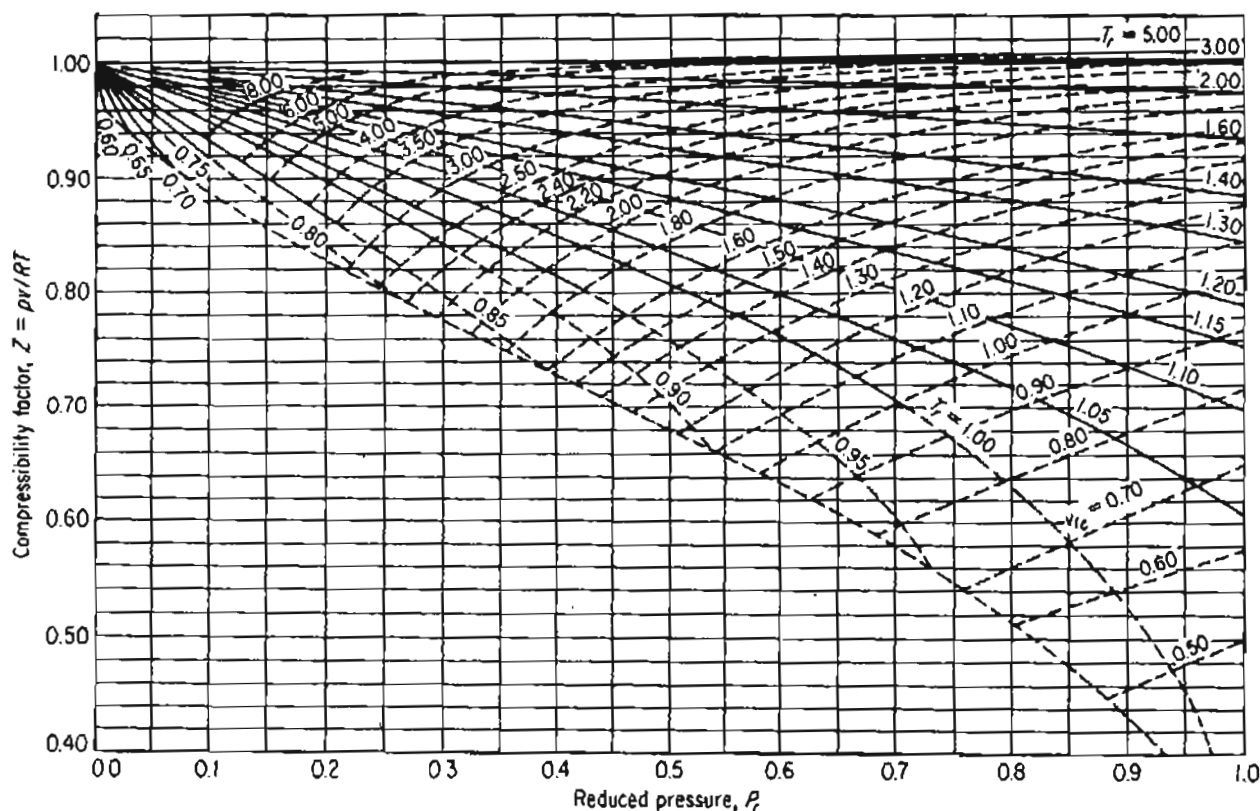

Figure 14.4a Generalized compressibility chart for lower pressures showing z as a function of p_r , T_r , and \hat{V}_{r1} .
Because of the generalization feature shown in Figure 14.3b, you can use what is called the generalized compressibility factor z for your gas calculations. Figures 14.4a and 14.4b shows two examples of the **generalized compressibility factor charts**, or z -factor charts, prepared by Nelson and Obert.* These charts are based on data for 30 gases. Figure 14.4(a) represents z for 26 gases (excluding H_2 , He, NH_3 , and H_2O) with a maximum deviation of 1%, and H_2 and H_2O within a deviation of 1.5%. Figure 14.4(b) is for nine gases and errors can be as high as 5%. Note that the vertical axis is not z but zT_r in Figure 14.4(b). To use the charts for H_2 and He (only), make corrections to the actual constants to get **pseudocritical** constants
and then you can use Figures 14.4a and 14.4b for these two gases using the pseudo-critical constants as replacements for their true values. You will find these two charts and additional charts for other ranges of p_r and T_r on the CD that accompanies this book in a format that can be expanded to get better accuracy.
1. What is in the blank region in Figure 14.4a below the curves for T_r and \hat{V}_r ? The blank region corresponds to a different phase—a liquid.